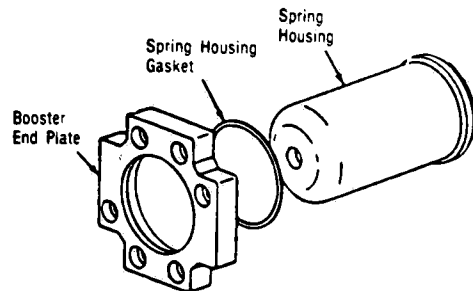

Figure 7-13. SPRING HOUSING/BOOSTER END PLATE ORIENTATION.
28. Place spring housing disc in spring housing if the spring housing is of the two piece design. Place spring housing gasket over spring housing so that it rests on rim at open end of spring housing. Insert spring housing with gasket through booster end plate (see Figure 7-13).